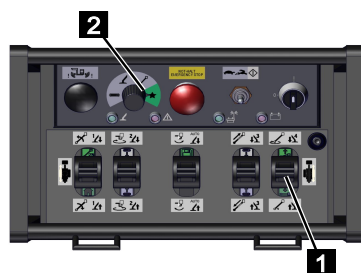

Fig. 122
4. Set the function selector to *[special function]* (green) (Fig.122/2).
5. Push the control lever (Fig.122/1) forwards until the work position has been reached.